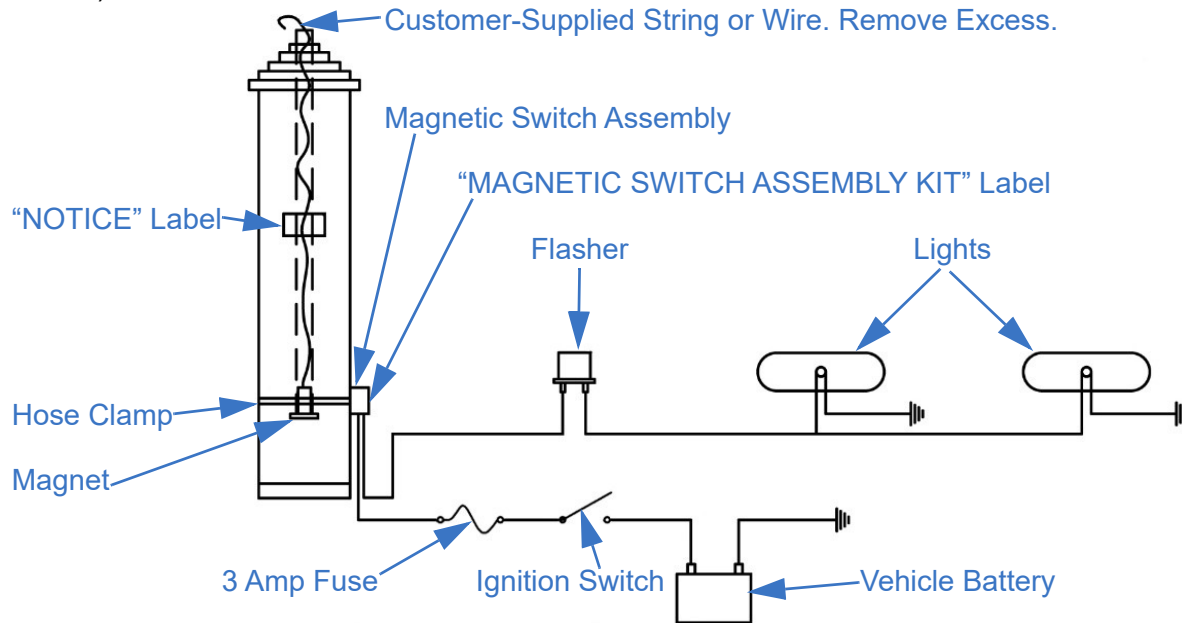

Figure 5-29 Wire the Magnetic Switch Assembly Kit
- a. 5-20, 6-27, 7-34, 8-30, 6-25, and 7-30: Use 16 AWG stranded wire (customer-supplied) to connect the flasher and lights to the wires exiting the Magnetic Switch Assembly (Figure 5-29).